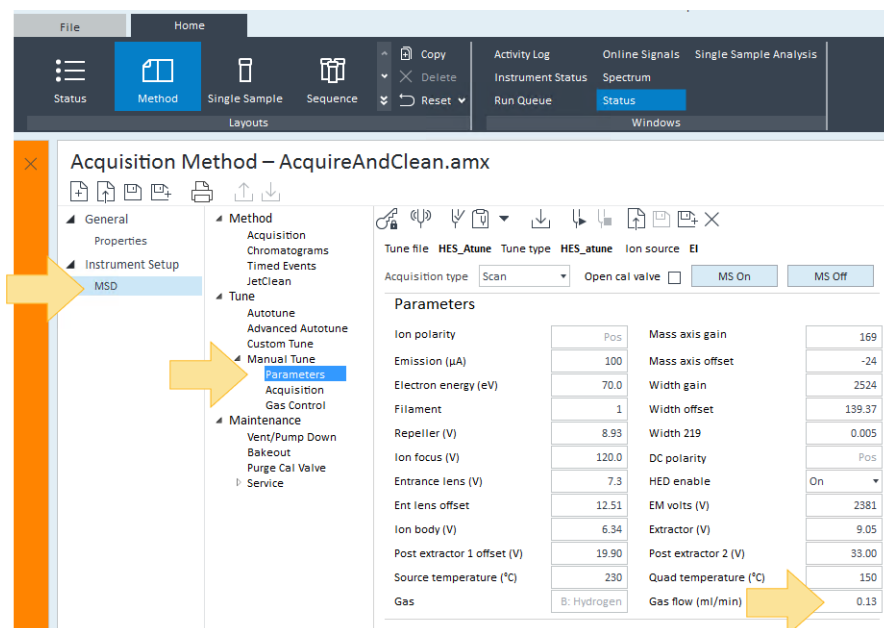

Figure 19. Manual Tune parameters
- b Select **Tune > Manual Tune > Parameters** and set the hydrogen **Gas flow** parameter to **0.13**. When developing your **Acquire and Clean** method, it is important to obtain the lowest possible hydrogen flow, while still observing good results. (See Figure 19 on page 36.)